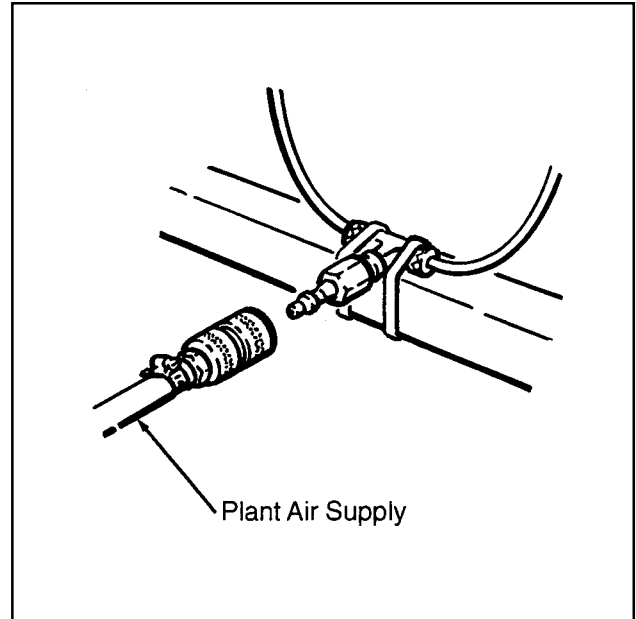

Figure 3-2 – Air Connection
3. Turn air valve on both applicators "Off" and connect plant air supply to male quick disconnect on the lower/rear frame rail of the applicator frame. See Figure 3-2.